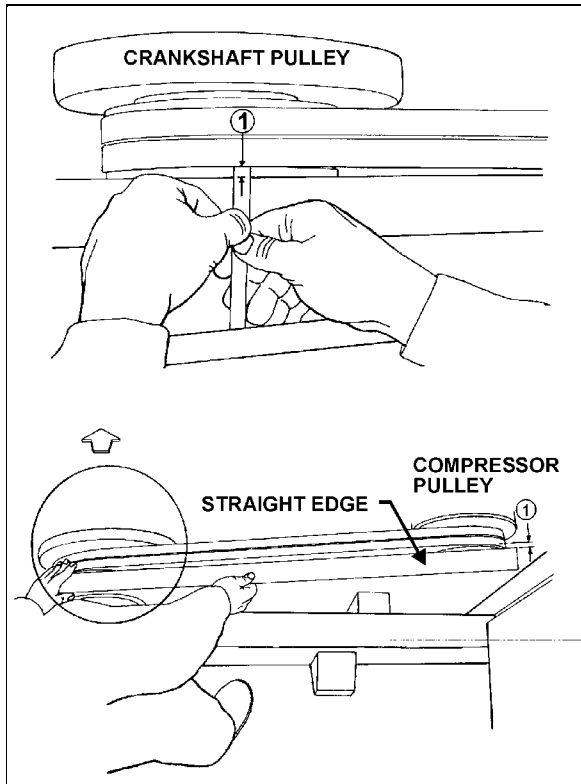

FIGURE 21: COMPRESSOR ALIGNMENT 22040
2. Check the distance between each extremity of straight edge (1. Fig. 21) and the first drive belt. If they are different, loosen the compressor support bolts and with a hammer, knock support to slide it in order to obtain the same distance, and tighten the bolts.
2. Check the distance between each extremity of straight edge (1, Fig. 21) and drive belt. If they are different, loosen the pillow block compressor bolts and with a hammer, knock compressor pillow block to slide it in order to obtain the same distance, and tighten the bolts.